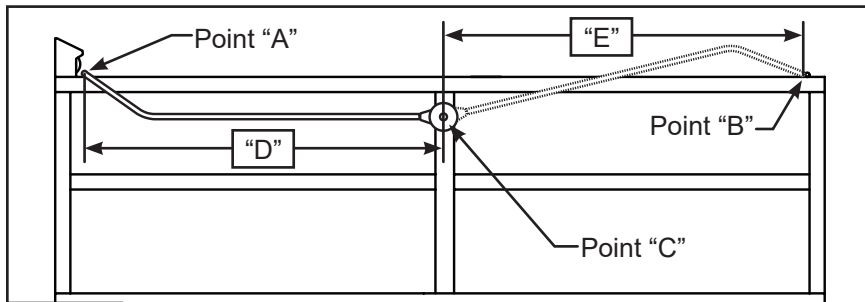
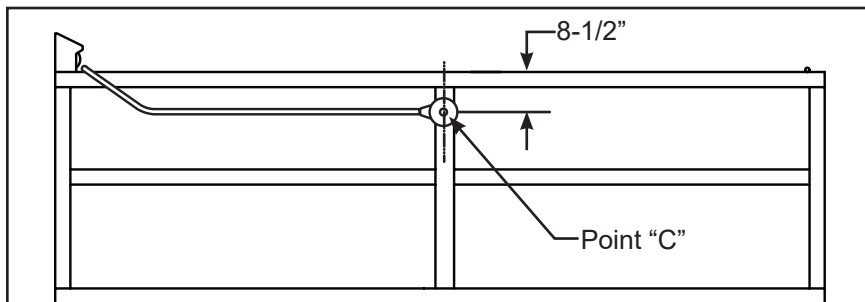

Fig. 13
Fig. 14
Step 4: Careful measurements must be taken to insure that the arm and pivot assemblies are mounted square and parallel to the truck or trailer body. Locate the proper mounting positions by determining Point "A" and Point "B" and insuring measurement "D" and "E" are equal (Fig. 13). The pivot "C" should be 1/2 way between Point "A" and Point "B" and 7" below the top rail on both sides (Fig. 14).